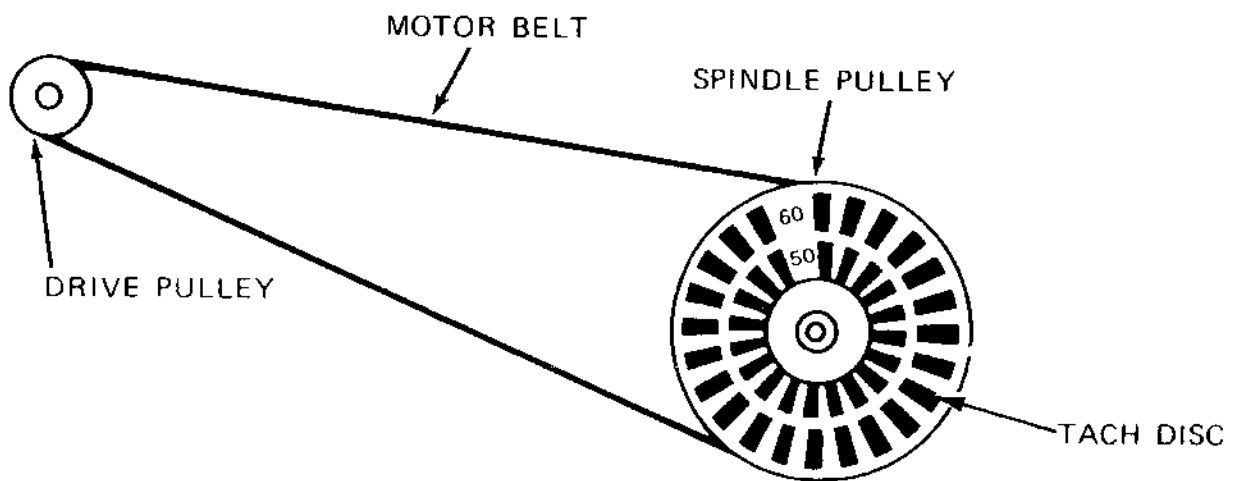

FIGURE 28. MOTOR SPEED ADJUSTMENT
- b. Turn the pot R-53 located on the drive PCB until the dark lines on the spindle pulley appear motionless. For 60 HZ use the outside ring of lines for 50 HZ observe the inside ring. Reference figure 28.